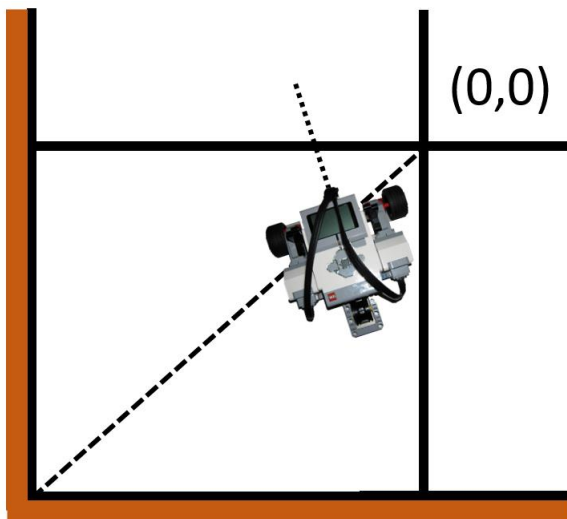
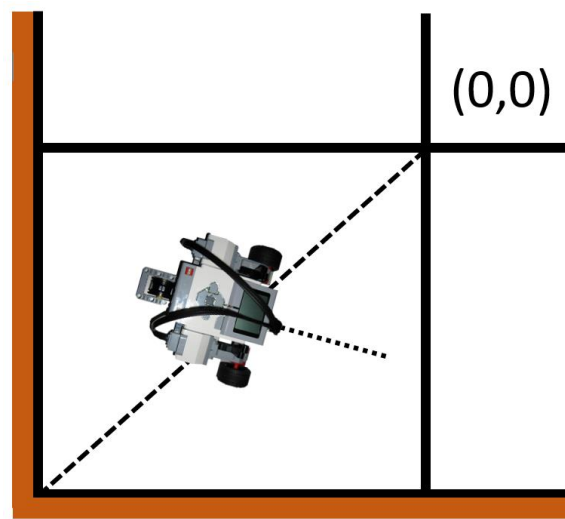

Figure 1. Robot's Starting Orientation A
Figure 2. Robot's Starting Orientation B
As shown in **Figure 1**, the robot is placed along the 45° line (thick dotted) inside the bottom-left tile of the 4x4 field grid. The **brown-colored** walls represent wooden walls used for the **ultrasonic localization**. Please note that the robot could be placed in **ANY ORIENTATION** and **POSITION** along this 45° line. For example, **Figure 2** shows another orientation and position of the robot's starting position compared to that in **Figure 1**.
After the measurement is complete, the robot should then move to the (0, 0) point as shown in **Figure 1** and **Figure 2**. Once **light localization** is performed at this point, two error quantities are measured by the TA: the **Euclidean distance error** between the robot's actual position and the (0, 0) point, and the **orientation error** with respect to the 0° axis. Hence, these three error quantities are used for grading the Lab 3 demonstration as discussed below.
1. Do I need to implement my robot's localization routines using the same 0° axis shown in **Figure 1** and **Figure 2** (that is, along +y axis)?